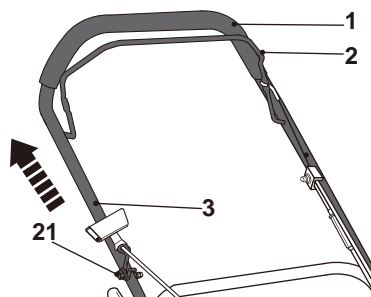

Fig. 12
1. Pull the brake bar (2) towards the handle (1).
- Slowly pull on the recoil starter handle (22) (Fig. 12) and fit it into the rope guide (21) on the right hand side of the upper handle (3) during operation (Fig. 12). Do not remove the rope from the rope guide when starting the engine.